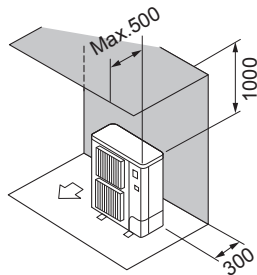

Fig. 2-4
- ② Obstacles at rear and above only (Fig. 2-4)